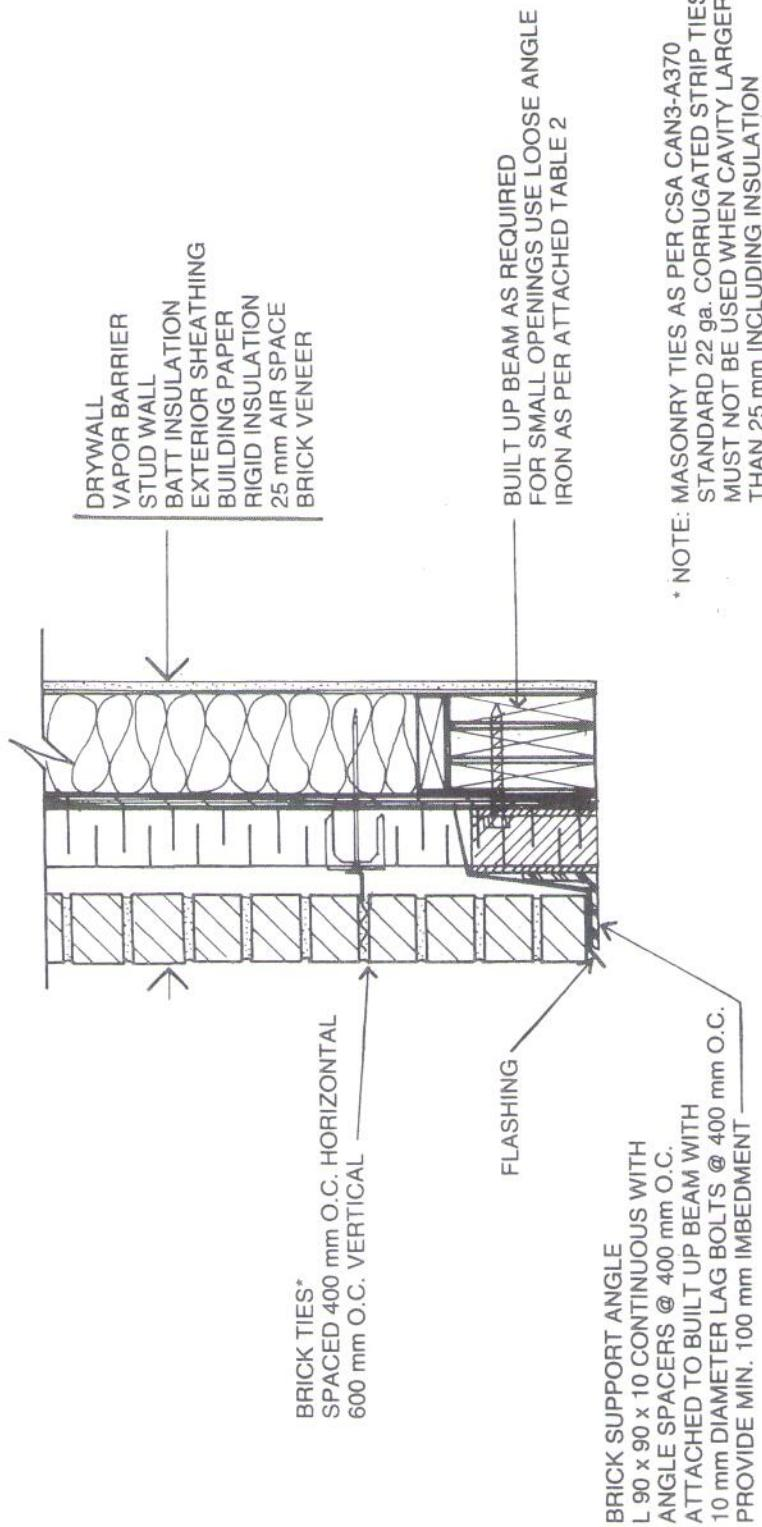

Figure 14 Steel shelf angle brick support detail at stud wall for window openings
- Figure 14 Steel shelf angle brick support detail at stud wall for window openings